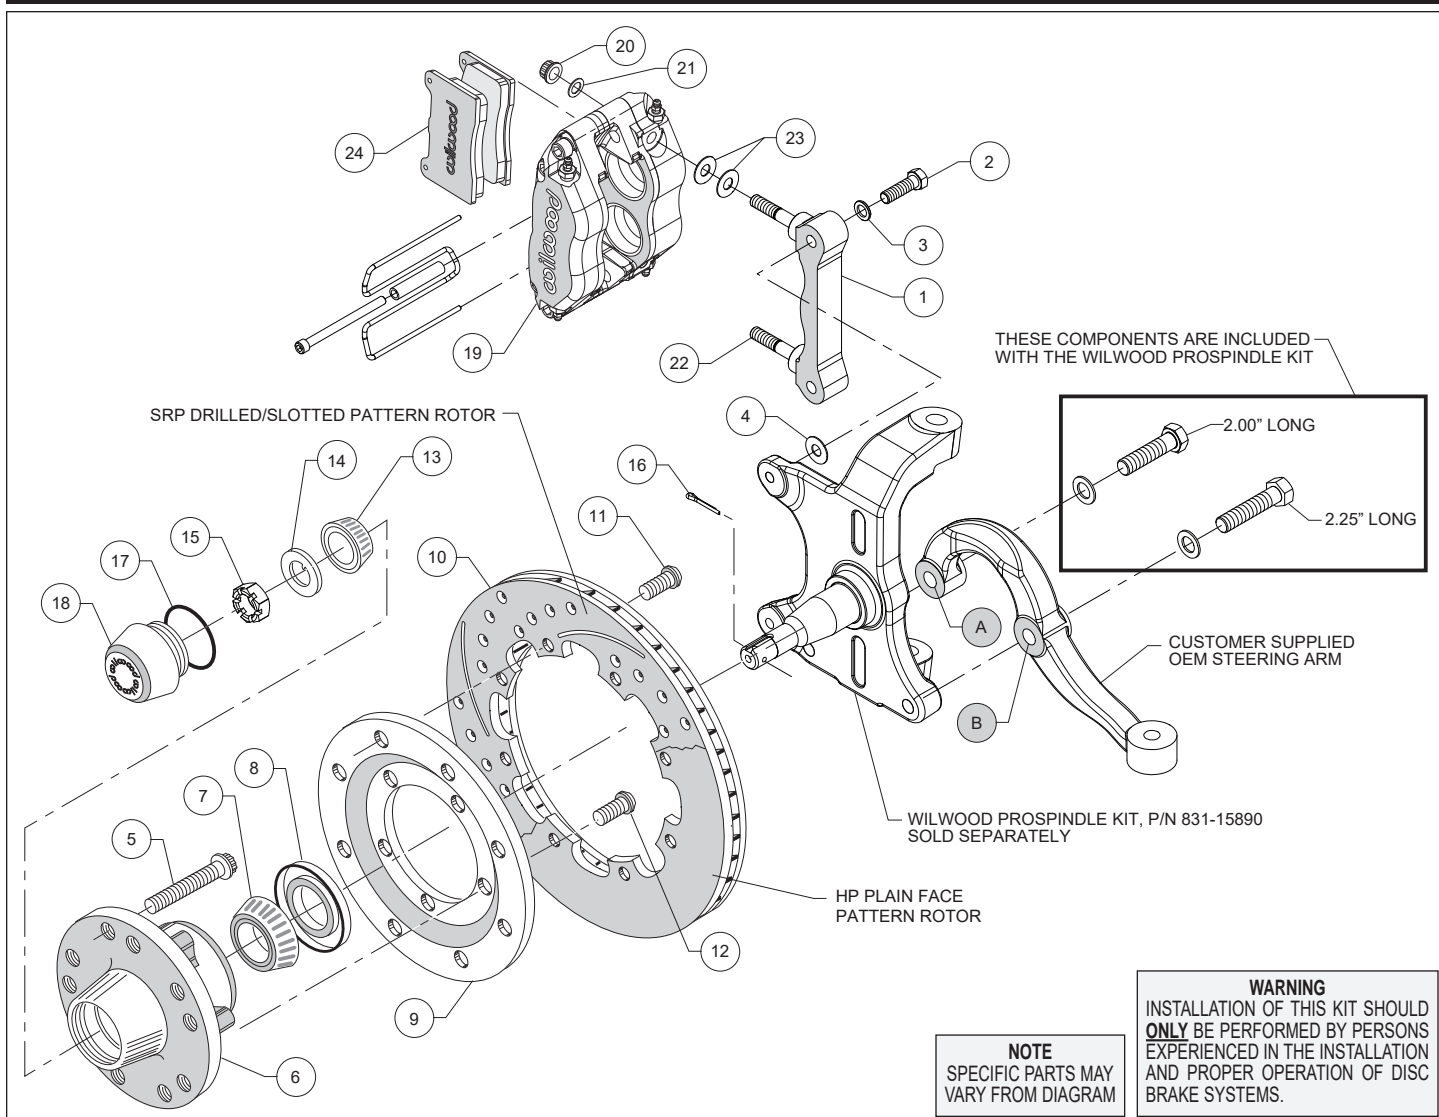

Figure 1. Typical Installation Configuration
Assembly Instructions (numbers in parenthesis refer to the parts list and Figure 1 on the preceding pages):
•**NOTE:** Wilwood's AFX ProSpindle kit includes bolts and washers to mount the steering arm (customer supplied) to the spindle. The various bolts are identified by length in the following instructions and in Figure 1.
•Orient the steering arm, and identify the hole marked "A" as shown in Figure 1. Attach arm to spindle using 2.00" long bolt and washer (from ProSpindle kit), Figure 1. Finish attaching the steering arm through the hole marked "B", using 2.25" long bolt and washer (from ProSpindle kit), Figure 1. Temporarily tighten the mounting bolts. **NOTE:** The steering arm must fit squarely against the mounting points on the spindle. Inspect for interference from casting irregularities, machining ridges, burrs, etc. Remove bolts one at a time, apply red *Loctite*® 271 to threads, and torque to 77 ft-lb.
•The caliper mount bracket (1) should initially be installed with clean, dry threads on the mounting bolts. Orient the bracket as shown in Figure 1 and Photo 1, and install using bolts (2) and washers (3). Initially place one .035 thick shim (4) on each bolt between the bracket and spindle, Figure 1. Temporarily tighten the mounting bolts. **NOTE:** The bracket must fit squarely against the mounting points on the spindle. Inspect for interference from casting irregularities, machining ridges, burrs, etc. Later, after the caliper alignment has been checked, the mount bolts will be secured using red *Loctite*® 271.
•Orient the rotor (10) and the rotor adapter (9) as shown in Figure 1 and Photo 4. Attach the rotor to the adapter using bolts (11). Using an alternating sequence, apply red *Loctite*® 271 to the threads, and torque to 25 ft-lb.
- Mount the adapter/rotor assembly (9 and 10) to the hub (6) using bolts (12), as shown in Figure 1 and Photo 5. Using an alternating sequence, apply red *Loctite*® 271 to the threads, and torque to 45 ft-lb.
- Lubricate the caliper mounting studs (22) with lightweight oil. Initially place two .035" thick shims (23) on each stud between the caliper and the bracket, as shown in Figure 1 and Photo 8. Mount the caliper (19) onto the bracket (1) using lock nuts (20) and washers (21), Figure 1. Temporarily tighten the lock nuts and view the rotor through the top opening of the caliper. The rotor should be centered in the caliper, Photo 9. If not, adjust by adding or subtracting shims (4) between the bracket and the spindle. Always use the same amount of shims on each of the two mounting bolts. Once the caliper alignment is correct, remove the bracket mounting bolts (2) one at a time, apply red *Loctite*® 271 to the threads, and torque to 40 ft-lbs.
- Insert the brake pads (24) into the caliper with the friction material facing the rotor (10), as shown in Figure 1 and Photo 10. Check that the top of the brake pad is flush with the outside diameter of the rotor, Photo 11. If not, adjust by adding or subtracting shims (23) between the caliper and the bracket. After the caliper pad height is set, torque the caliper lock nuts (20) to 30 ft-lb. Secure the pads in place using the pad clip retainer as well as the center bridge pad retainer tube, bolt, and locknut, Photo 12. The locknut should be snug without play in the bolt or tube. Be cautious not to over tighten.